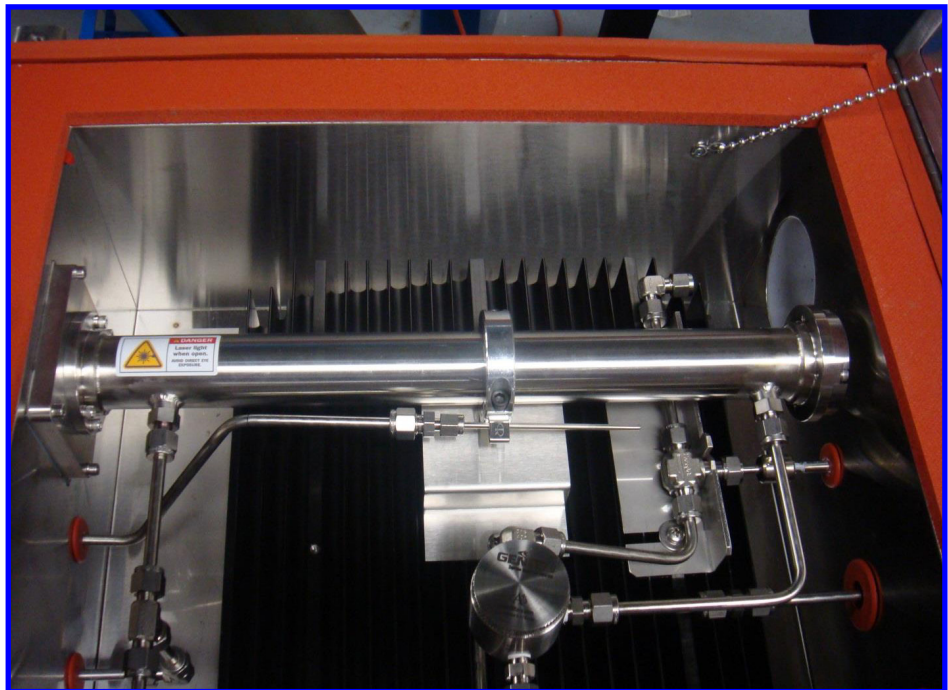

**Figure 1.**
- a. With the Cell oriented properly (see Figure 1), start by positioning the Cell toward the right side of the Oven then slowly move it toward the Cell Mounting Plate, using the alignment pins as a guide, until the Cell is in place against the Mounting Plate. **Take care to ensure the pins are not bent while replacing the Cell.**